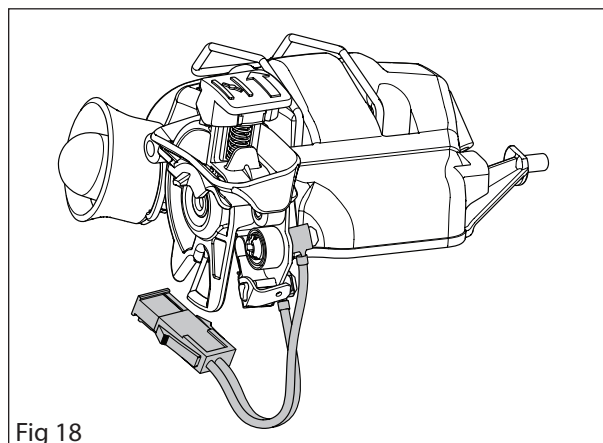

Fig 18
2. Make sure the cabling is fitted to its mounting on the intake flange. See figure 18.